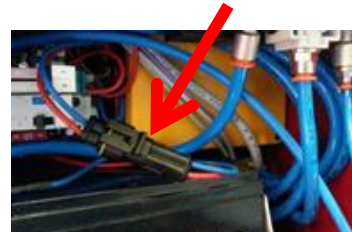

Figure: 22
- Disconnect the battery by unplugging the connector at the battery (see figure 22).